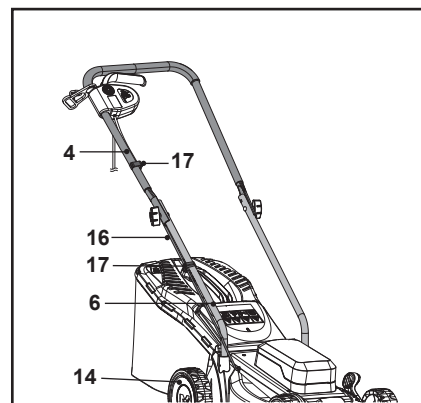

Fig. 5
7. Attach the control cord (16) with the two cord clips (17) on the right-hand side of the upper handle bar (4) and the lower handle bar (6) (when viewed from operator's position) (Fig. 5).
8. Check the condition of control cord (16) and keep it away from the rear wheel (14).